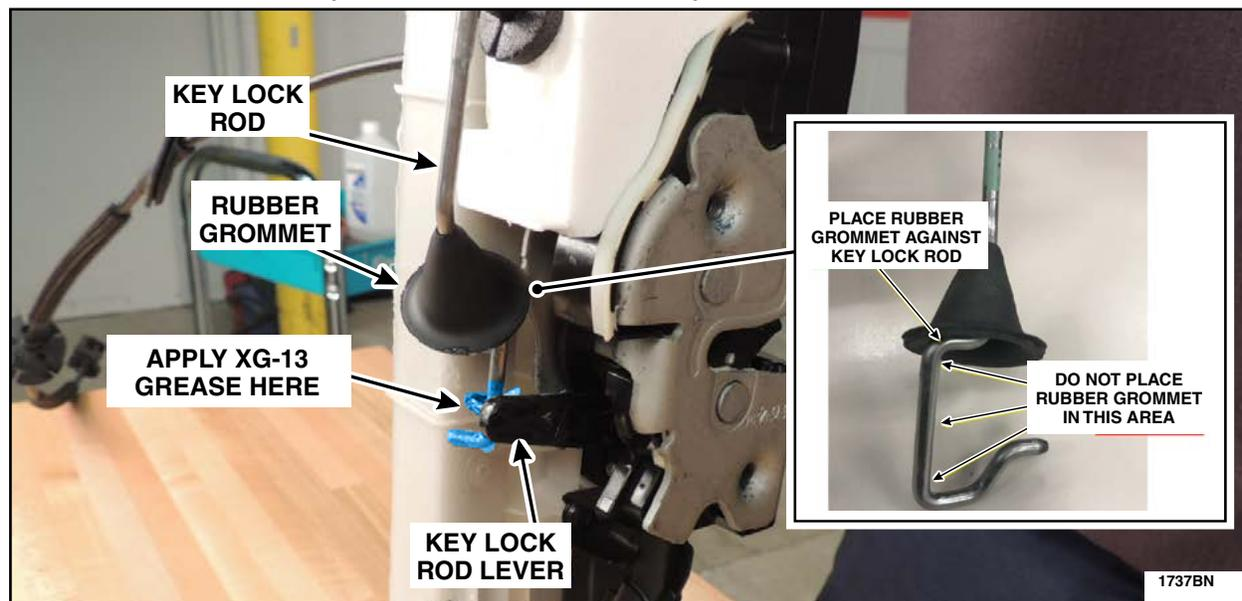

FIGURE 38
6. For driver side only, apply Motorcraft® XG-13 grease to the area where the key lock rod attaches to the key lock rod lever. See Figure 38.
7. For driver side only, install the rubber grommet onto the key lock rod over the key lock rod lever. The rubber grommet should be positioned as shown. The rubber grommet will sit sideways when installed properly. See Figure 38.